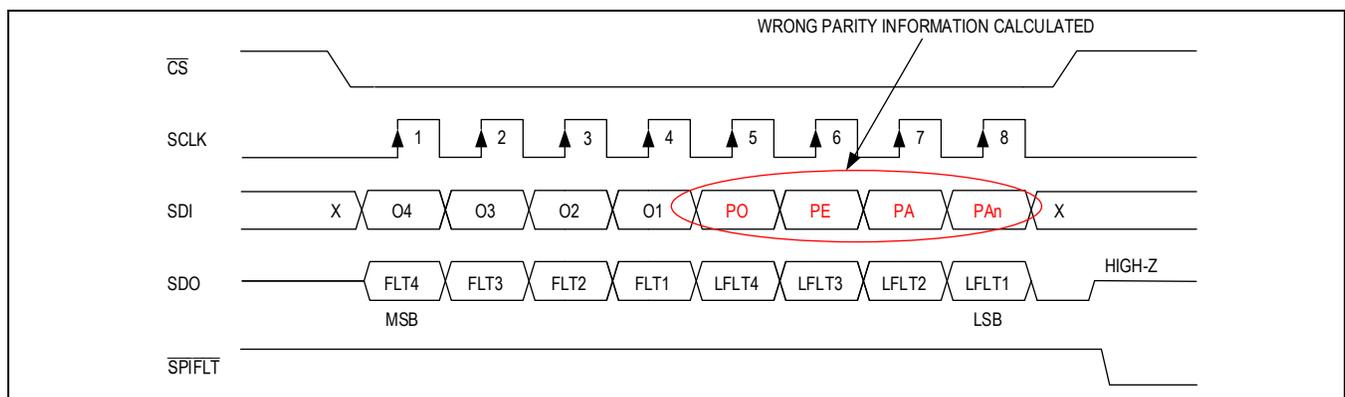

Figure 6. \overline{SPIFLT} Signaling Due to Incorrect Parity Bits on SDI
- The parity bits calculated by the MAX14918 differ from the ones transmitted by the SPI controller (see Figure 6).